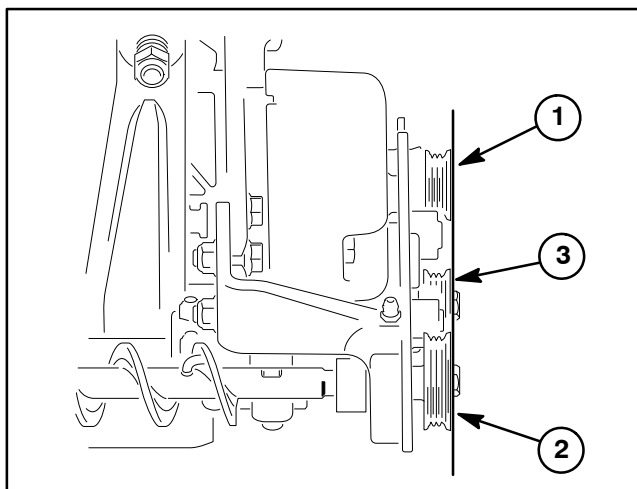

Figure 43
4. Check alignment of pulleys with a straight edge placed along the outer face of the pulleys (Fig. 43). The outer faces of the drive, driven and idler pulleys should be aligned. If necessary to align pulleys, loosen locking collars on brush bearings and move brush assembly until pulleys are aligned. Once pulleys are aligned, secure brush with bearing locking collars.